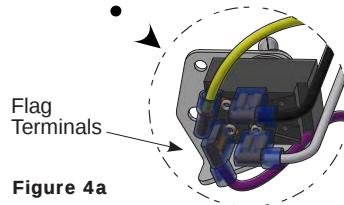

Figure 4a
5. Unplug the four flag terminals to remove the wires from the switch (see Figure 4a). Take note of which wire is attached to each blade terminal for reinstallation.